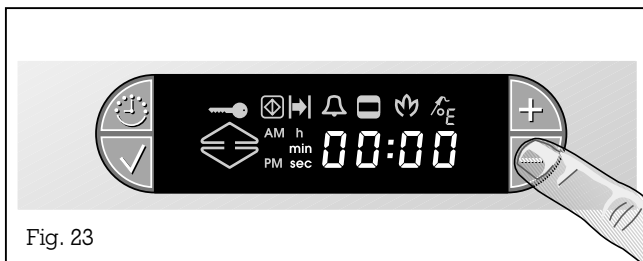

Fig. 23
- Press the - key while the appliance is on (Fig. 23).